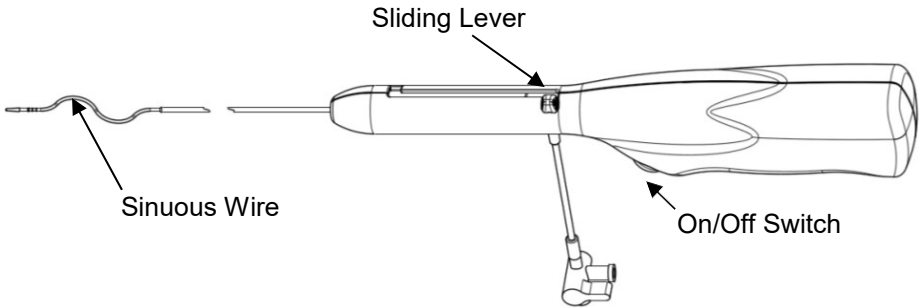

Figure 2
2. Remove the CLEANER 15™ Rotational Thrombectomy System from the package. Press the ON/OFF switch to ensure that the sinuous wire spins freely (refer to Figure 2). Release the switch to stop the rotator. **Precaution: Do not use the device if it does not activate immediately when the switch is pressed, and deactivate immediately when the switch is released.**